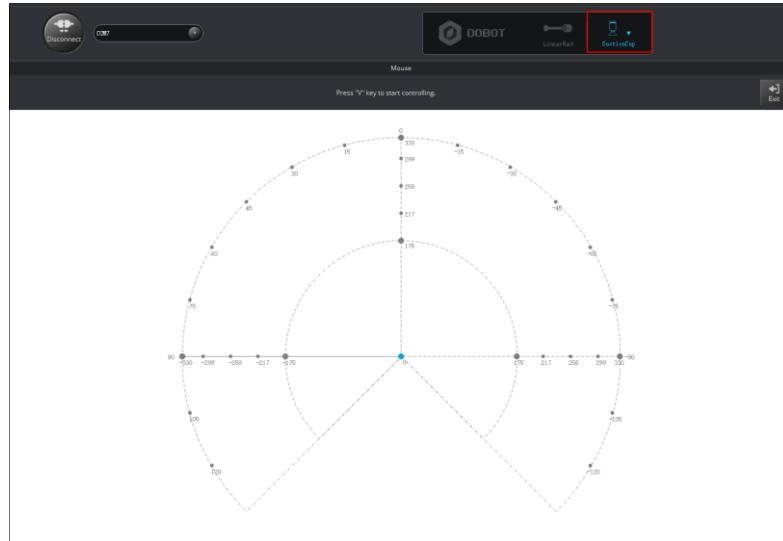

Figure 5.115 Click Setting
**Step 3** Click **Setting**, as shown in Figure 5.115.